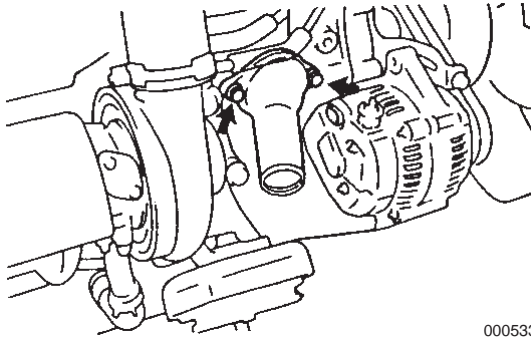

Figure 7-9
4. Remove the thermostat and the gasket from the thermostat (**Figure 7-9**).